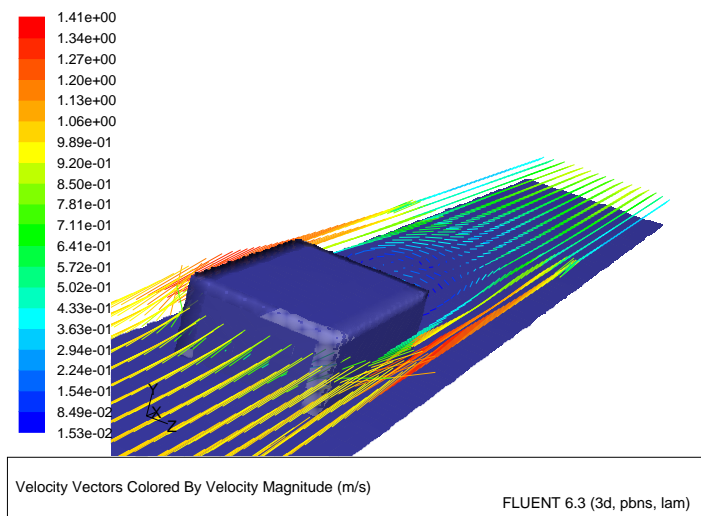

Figure 23.11: Velocity Vectors After Mirroring
4. Mirror the view about the chip symmetry plane (Figure 23.11).
The display will be updated in the graphics window (Figure 23.11).